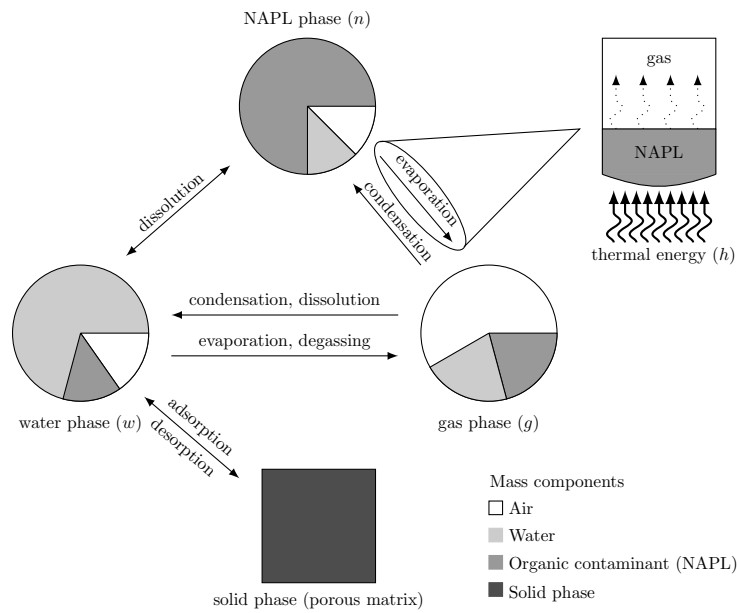

Figure 5.1: Mass and energy transfer between the phases
**Components:** The term *component* stands for constituents of the phases which can be associated with a unique chemical species, or, more generally, with a group of species exploiting similar physical behavior. In this work, we assume a water-gas-NAPL system composed of the phases water (subscript w), gas (g), and NAPL (n). These phases are composed of the components water (superscript w), the pseudo-component air (a), and the organic contaminant (c) (see Fig. 5.1).